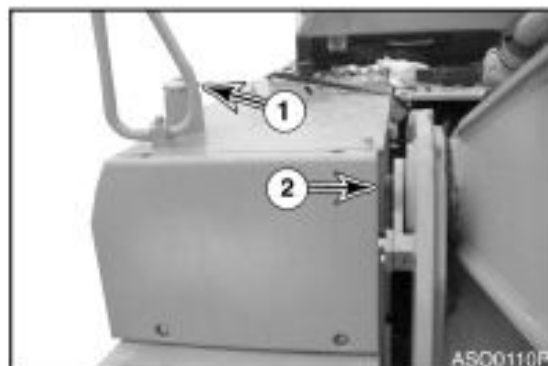

Figure 5
8. Clean area around fuel tank fill cap (1, Figure 5). Open fuel cap.